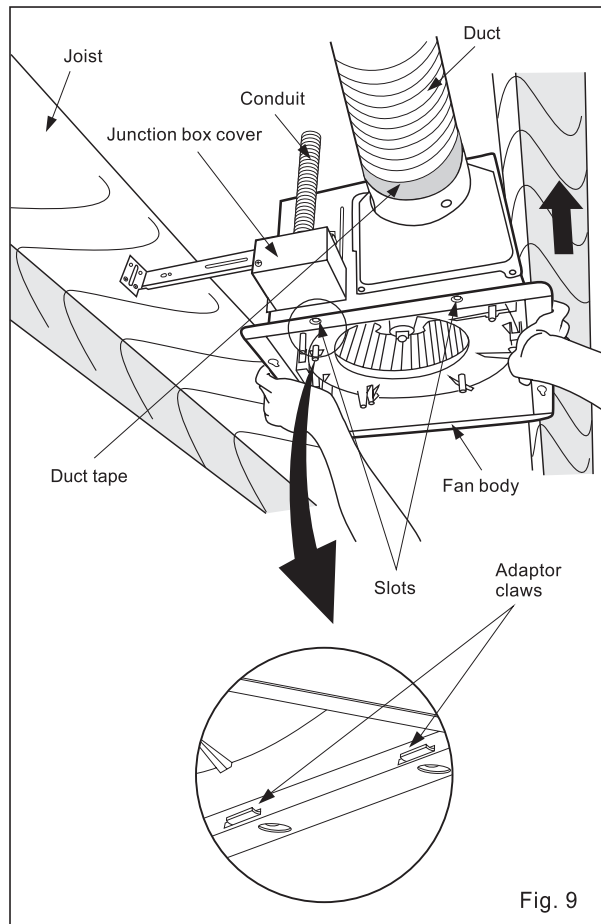

Fig. 9
5. Insert the fan body into joists. (Fig. 9)
4. Insert fan body (without blower section) into joists (Fig. 9)